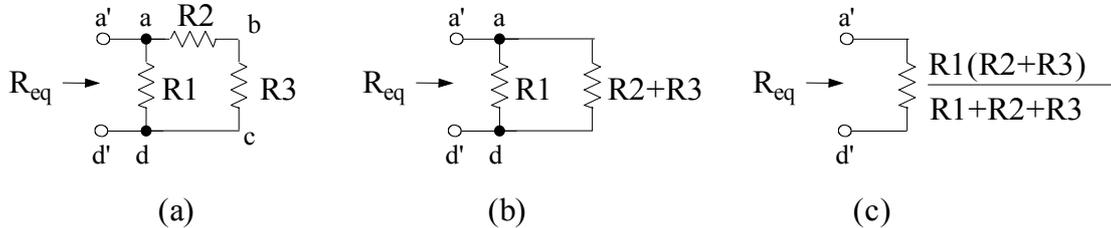
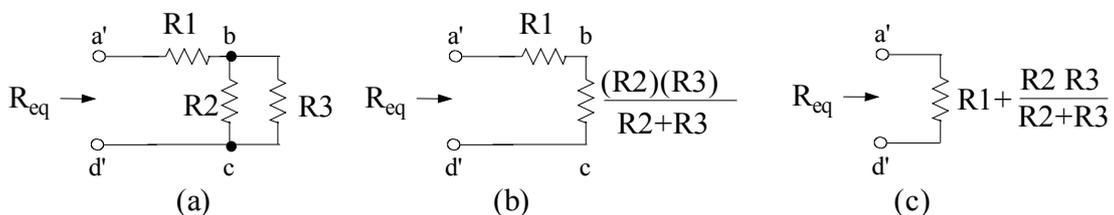
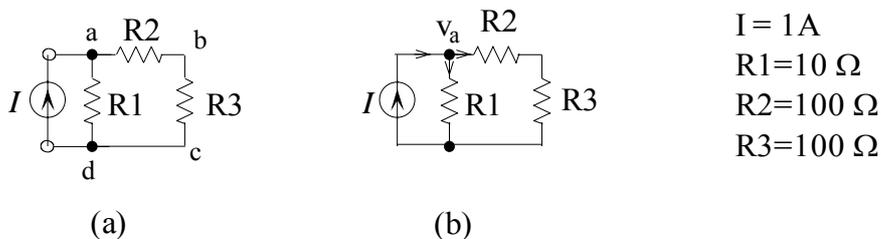
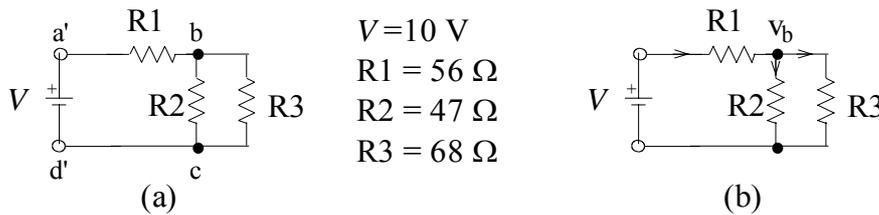

Figure 2.5 (a) Resistive circuit, (b) series branch reduced to a single resistance and (c) equivalent resistance.
Figure 2.6 A resistive circuit
Figure 2.7 Node analysis
Figure 2.8 Node analysis
Electrical circuits can have resistors connected in all possible configurations. Consider for example the circuit given in Figure 2.5(a). Two resistors are connected in series, which are then connected in parallel to a third resistor, in this circuit.
In order to determine the overall equivalent resistance R_{eq} , which appears across the terminal $a'-d'$, we must first find the total resistance of $a-b-c$ branch. R2 and R3 are connected *in series* in this branch. The total branch resistance is $R2+R3$. The circuit decreases to the one given in Figure 2.5(b). Only two resistances, R1 and $(R2+R3)$, are connected in parallel in this circuit. Hence, R_{eq} can be determined as
Another resistive circuit is depicted in Figure 2.6(a). In this case we must reduce the two parallel resistors across the terminals $b-c$ into a single resistance first, as shown in Figure 2.6(b). R1 is now series with the parallel combination of R2 and R3. R_{eq} can now be found readily as
as shown in Figure 2.6(c).
A node is a point in the circuit where more than two elements are connected together. For example b in Figure 2.6(a) is a node but b in Figure 2.5(a) is not.
Consider the circuit in Figure 2.5(a), with a current source connected across terminals a' - d' . This circuit is given in Figure 2.7(a) with numerical values assigned to circuit parameters.
2. Define the node voltage v_a as the potential at node a minus the potential at node d , as shown in Figure 2.7(b).
Another example is the circuit in Figure 2.6(a), driven by a voltage source as shown in Figure 2.8(a).